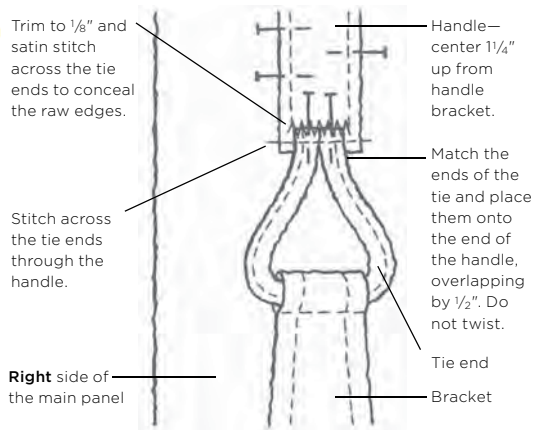

Figure 2
- a. Match the ends of the first tie and place them onto the end of one handle, overlapping by $\frac{1}{2}$ " (1.3 cm). Be careful not to twist the tie. Pin the ends in place. Stitch across the ends of the handle and the tie. Backstitch at each end. (See Figure 2.)